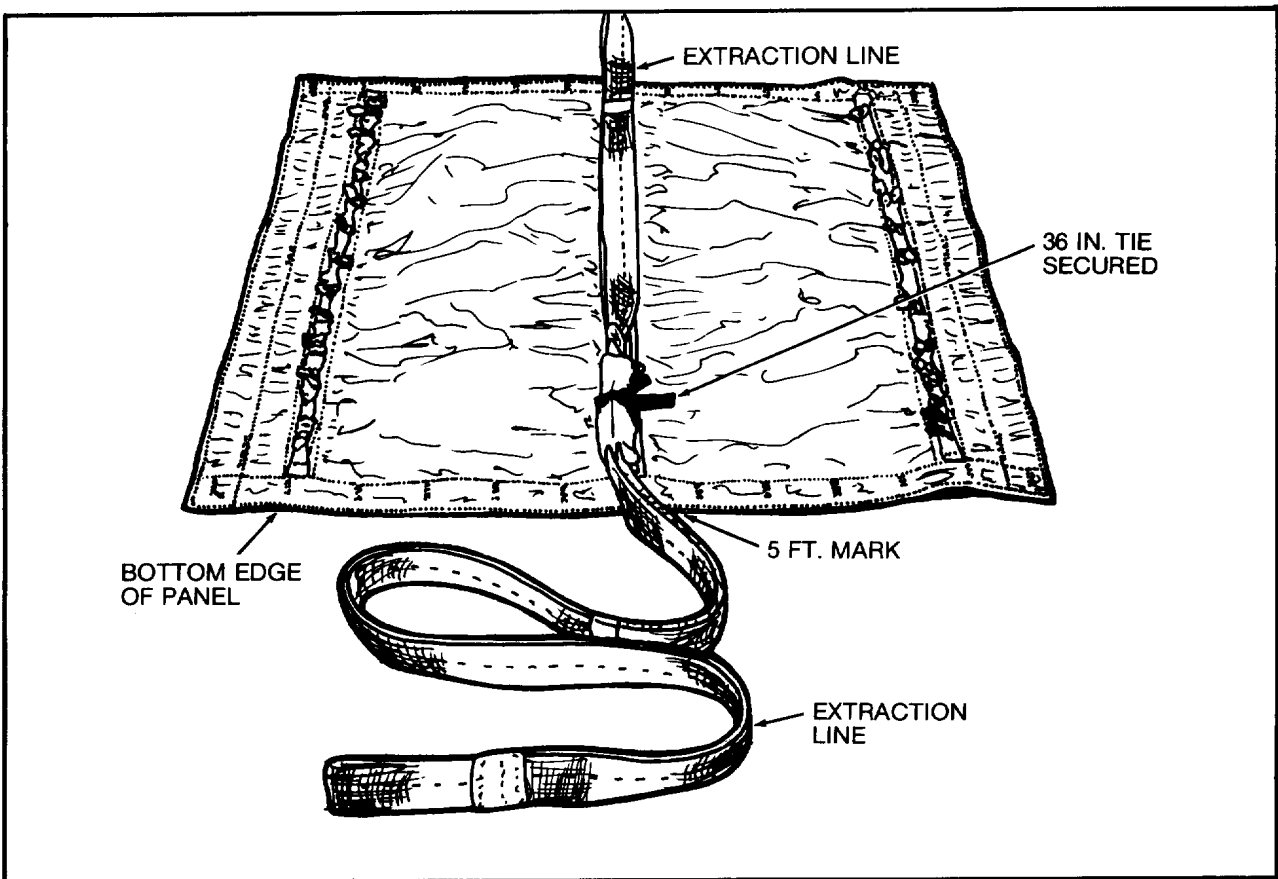

Figure 3. Extraction Line Secured to Bottom Panel.
- c. Pass running ends of 36-inch length of ½-inch tubular nylon webbing previously installed on panel up between wrapped plies of extraction line, pass each running end in opposite direction down and under stow loop and back to top of extraction line. Secure running ends on top of extraction line with surgeon's knot, locking knot, and overhand knot on running ends (figure 3).